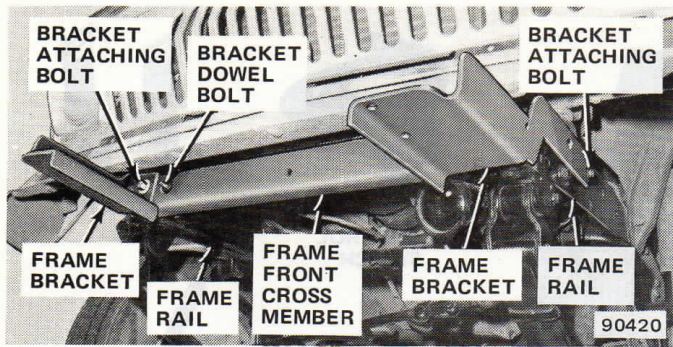

Fig. 5-46 Frame Bracket Installation—1976-78 Models
(1) Raise vehicle on hoist.
(2) Remove original bumper from vehicle. Retain bumper attaching hardware.
(3) On 1976-78 models install frame brackets on frame rails. Attach brackets to frame rails and frame front crossmember using original bumper mounting bolts and special dowel nuts and 7/16 x 1-1/4 bolts, flat washers and lockwashers (fig. 5-46). Tighten bracket attaching bolts to 50 foot-pounds (68 N•m) torque.